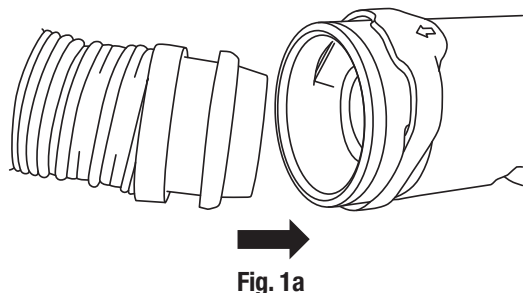

Fig. 1a
- Connect approved breathing tubes by pushing the QRS (Quick Release Swivel) end of the breathing tube (i.e. end with the black pinch clip) onto the airduct inlet of the welding helmet (Fig. 1a). The breathing tube should make an audible click when attached. Verify breathing tube is secured to the welding helmet by swiveling and pulling on the connection. If it is not securely connected, detach and reconnect.